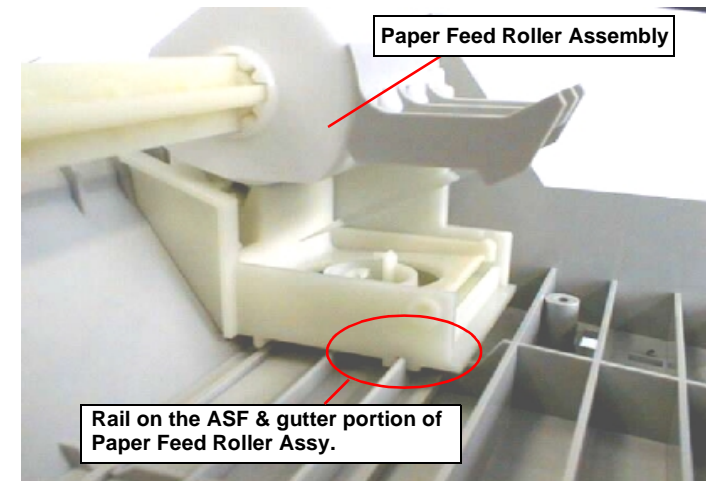

Figure 4-30. Setting the Paper Feed Roller Assembly on the Rail
- Make sure that gutters of back side of both Paper Feed Roller Assembly are set on the rail on the ASF Frame. Refer to Figure 4-30.